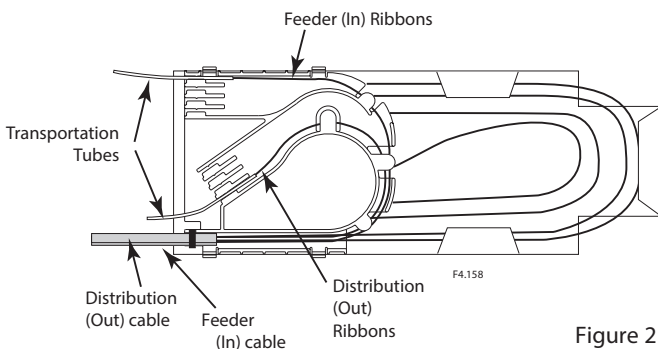
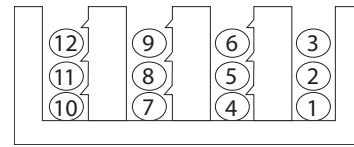

Figure 2
Figure 3: Distribution Tube Arrangement
4. Attach both central core tube ends to the ribbon router with one large tie wrap. (Figure 2) The distribution or "out" cable should be on top.
6. Route the ribbons to be spliced through the ribbon router as shown in Figure 2.
- Place up to six ribbons into a single transportation tube. Insert the transportation tube into one of the distribution slots on the ribbon router as shown. (Figure 2) Up to three transportation tubes can be stacked in each slot. Fill the slots in the order indicated. (Figures 3 and 4)